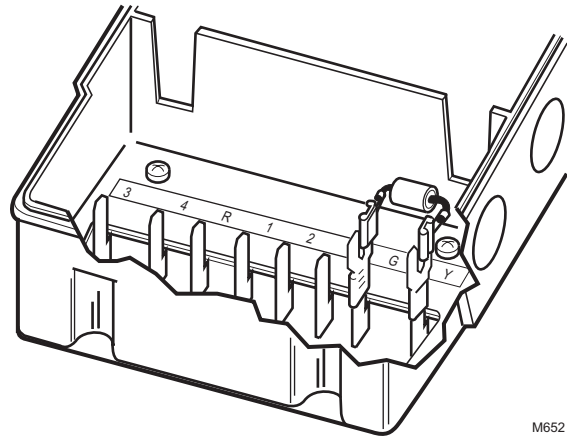

Fig. 11. Attaching a shunt resistor to TRADELINE motors.
- W902 Control requires full stroke feedback resistance of 115 ohms. Select and attach the proper shunt resistor across terminals Y and G (see Table 5 and Fig. 11).
- Slaving a Series 90 Motor requires full-stroke feedback resistance of 142 ohms. Select and attach the proper shunt resistor across terminals Y and G (see Table 5 and Fig. 11).